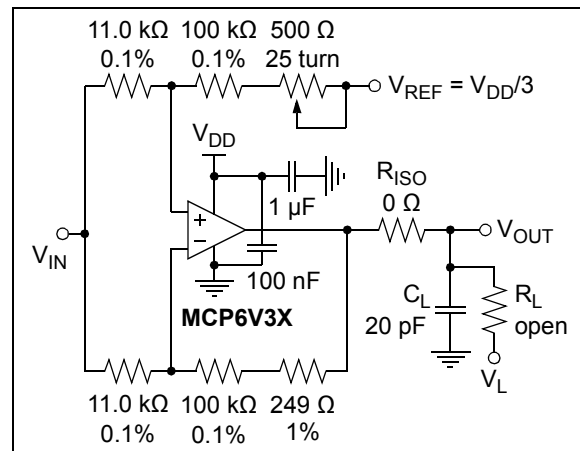

FIGURE 1-6: Test Circuit for Dynamic Input Behavior.
- Note 1:** These parameters were characterized using the circuit in Figure 1-6. In Figure 2-33 and Figure 2-34, there is an IMD tone at DC, a residual tone at 100 Hz and other IMD tones and clock tones.
The circuit in Figure 1-6 tests the input's dynamic behavior (i.e., IMD, t_{STR} , t_{STL} and t_{ODR}). The potentiometer balances the resistor network (V_{OUT} should equal V_{REF} at DC). The op amp's Common-mode input voltage is $V_{CM} = V_{IN}/2$. The error at the input (V_{ERR}) appears at V_{OUT} with a noise gain of 10 V/V.